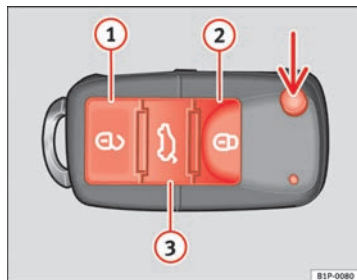

Fig. 64 Assignment of buttons on the remote control key
Using the button  \Rightarrow fig. 64 (arrow) on the control, the key shaft is released.
Unlocking the vehicle  \Rightarrow fig. 64 ①.
Locking the vehicle  \Rightarrow fig. 64 ②.
Unlocking the tailgate. Press the button  \Rightarrow fig. 64 ③ until all indicators on the vehicle briefly flash. When the unlocking button  ③ is pressed, you have 2 minutes to open the door. Once this time has passed, it will lock once more.
Also, the battery indicator on the key \Rightarrow fig. 64, will flash.
When the button  \Rightarrow fig. 64 ①, is pressed once, the driver's door is unlocked, all others remain locked.
Press the button  \Rightarrow fig. 64 ① twice to unlock all doors.
- Press the  ⇒ page 102, fig. 64 button on the remote control.